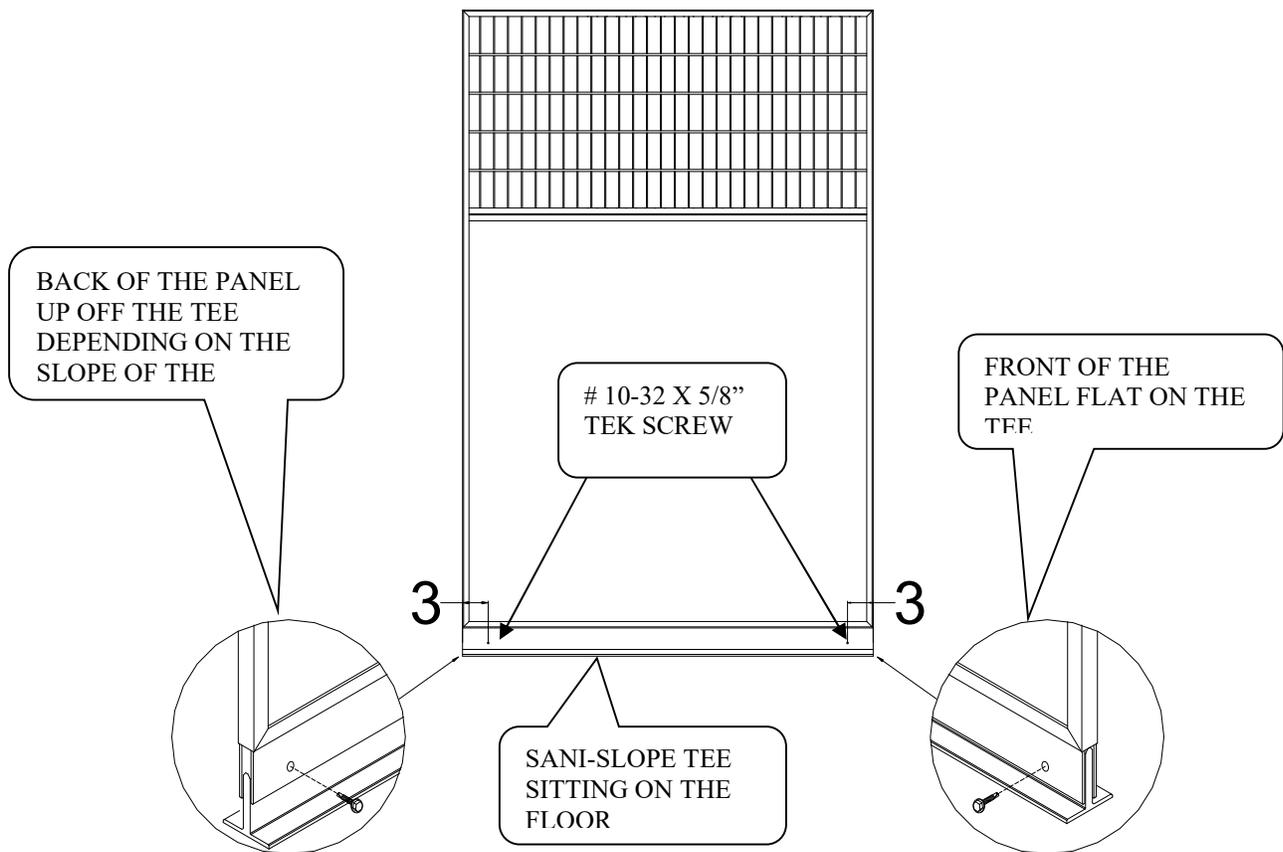

Figure 9
1. Using a hammer tap all of the “Sanislope T’s” on the front end of the run, back until they are flush with the front edge of the division panel as shown in Figure 9.
2. While the panels remain level, apply downward pressure to the Sanislope T, drill a 11/64” hole at least 1/2” deep, through the “Sanislope “H” at the bottom of the division panels into the “Sanislope T”, as shown in Figure 9. After each hole is drilled, drive a #10-32 x 5/8” TEK screw into the hole. Spraying a little WD40 into the hole before driving the screws will simplify the process. (**NOTE:** if your system is using the Silvis Seal, it is the downward pressure on the Sanislope Tee that ensures the Silvis Seal performs properly.)
3. Repeat step D-2 for all screw locations shown on Figure 9 for both division panels.
4. Repeat steps D-1 through D-3 for all remaining division panels following the same sequence used to assemble the panels as shown in Figure 9. Continue the leveling process for all runs and or banks of runs.